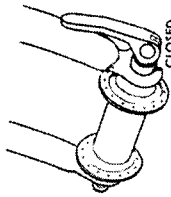

Fig 7a
- Move the wheel's quick-release lever from the locked or CLOSED position to the OPEN position (Figs. 7a & b).
- If your front fork does not have a secondary retention device go to step (5).
- If your front fork has a clip-on type secondary retention device, disengage it and go to step (5). If your front fork has an integral secondary retention device, loosen the tension adjusting nut enough to allow removing the wheel; then go to the next step.
2. With the steering fork facing forward, insert the wheel between the fork blades so that the axle seats firmly at the top of the slots which are at the tips of the fork blades — the fork dropouts. The quick-release lever should be on the left side of the bicycle (Fig. 7a & b). If your bike has a clip-on type secondary retention device, engage it.